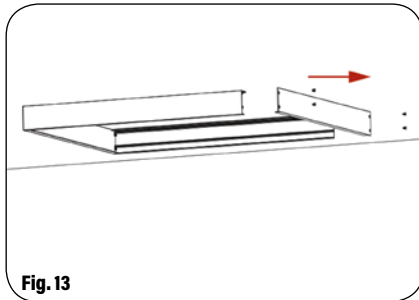
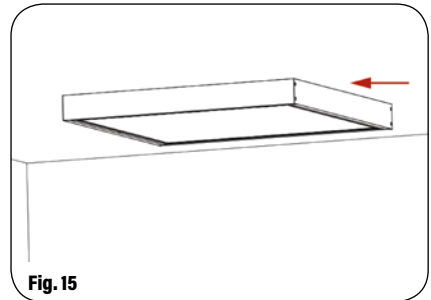

Fig. 13
Fig. 15
4. After mounting the frame onto ceiling, remove one side of the mounting frame. (Fig. 13)
6. Reattach the side of the mounting frame that was removed in Figure 13. (Fig. 15)